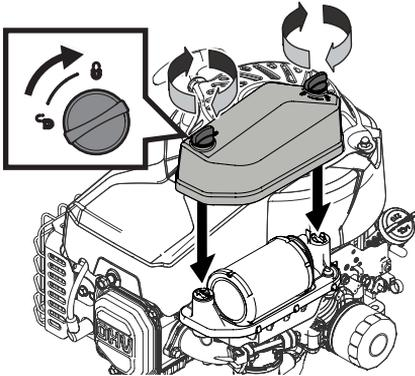

Figure 15
7. Attach the air filter cover (Figure 15). Turn thumb screws clockwise a 1/4 turn until snug. Check for any misalignment.